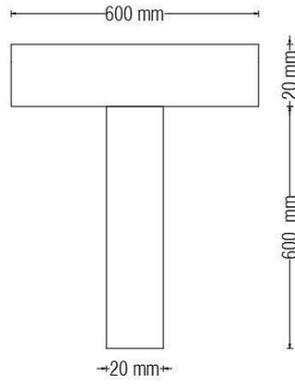

Figure 1
- (c) Compute the moment of inertia about XX and YY axis for the “T” beam section given in figure 1. Both XX and YY axis are passing through its centroid. ૦૭